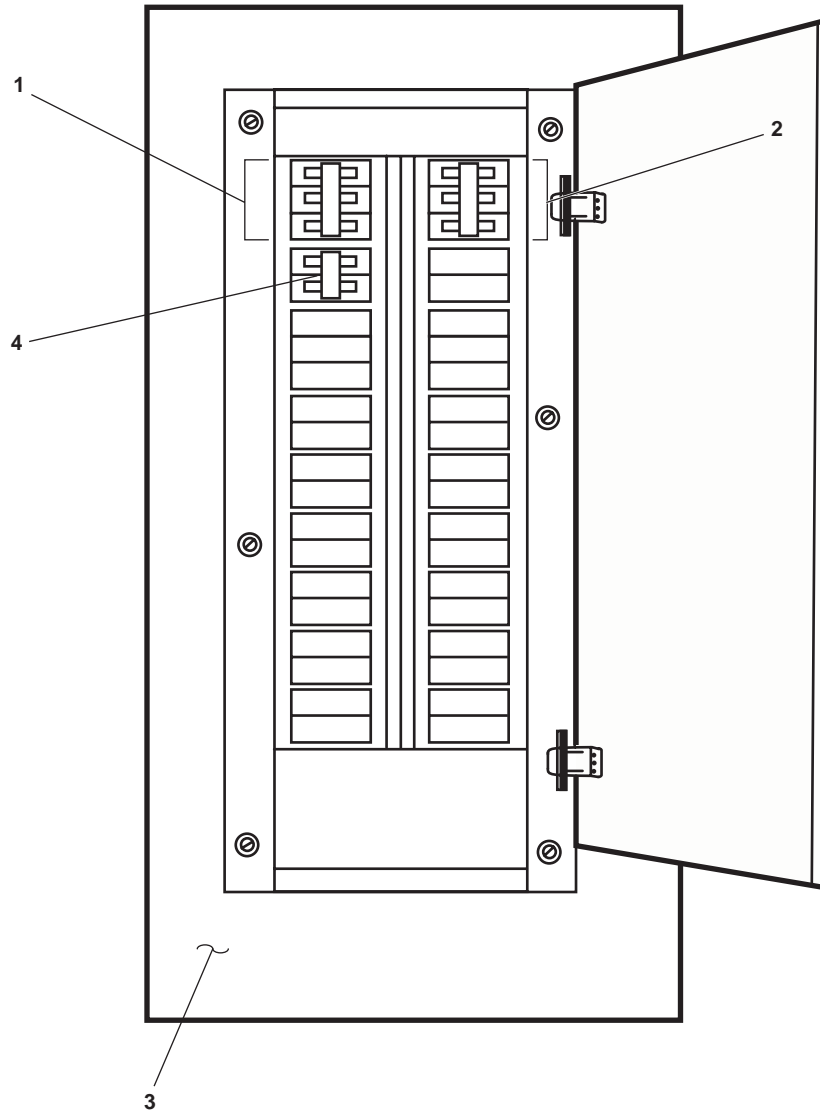

Figure 23. 220V Air Conditioning Distribution Panel
1. Set to ON the PILOTHOUSE OVERHEAD A/C UNIT PORT circuit breaker (figure 23, item 1) and the PILOTHOUSE OVERHEAD A/C UNIT STARBOARD circuit breaker (figure 23, item 2) in the 220V air conditioning distribution panel (figure 23, item 3).
1. Set to ON the OUTDOOR CONDENSING UNIT FOR RADIO ROOM circuit breaker (figure 23, item 4) in the 220V air conditioning distribution panel (figure 23, item 3).